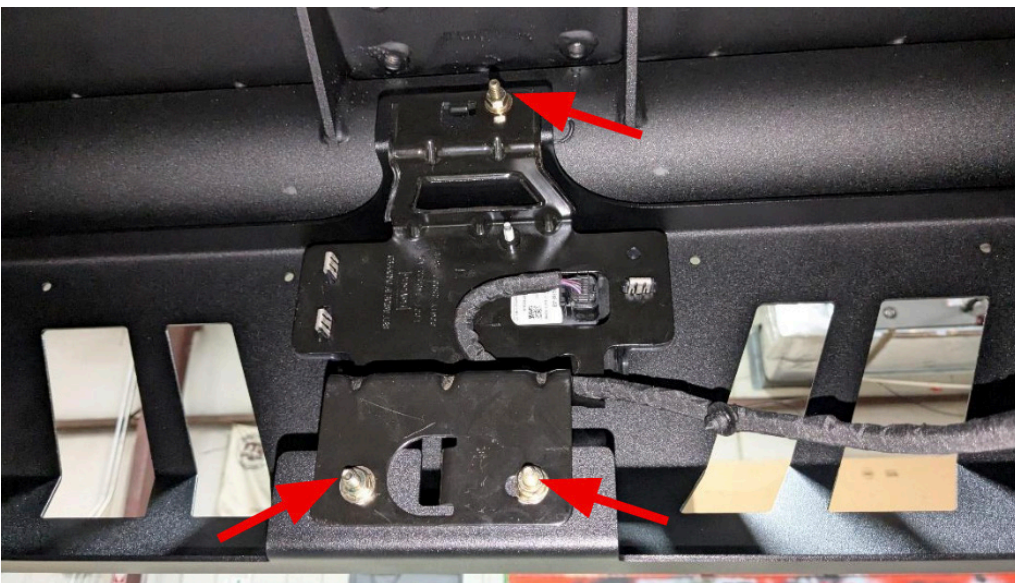

Figure 14
15. Install ACC sensor and mounting bracket onto the lower guard (Part#: 23458) using three (3) of the provided 1/4"-20 x 1" hex head cap screws, flat washers, lock washers and nuts. Tighten the previously installed hardware using a 7/16" combination wrench and socket wrench. Figure 14